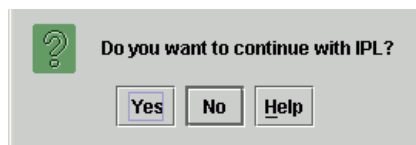

Figure 4-30 Information Dialog Box
3. Select the *IPL* option from the *Maintenance* menu. An *Information* dialog box displays (Figure 4-30).